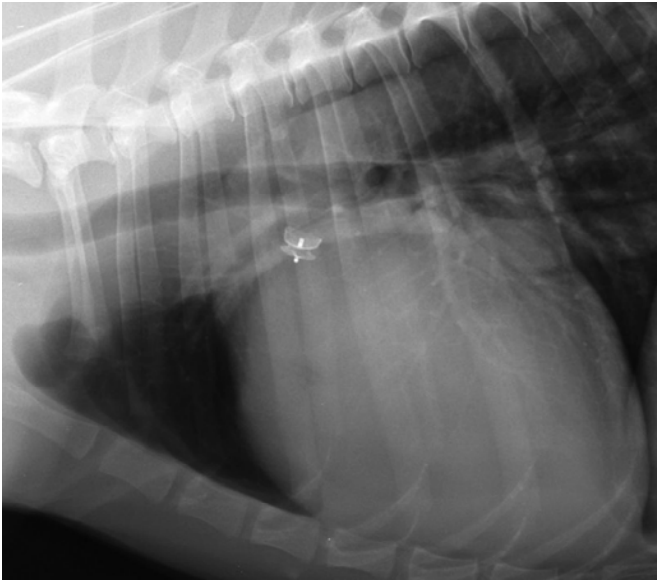

Figure 9. Lateral radiograph showing a correctly positioned and fully deployed device after removal of the delivery cable.
- 5.5. Do not release the Amplatz Canine Duct Occluder from the delivery cable if the device does not conform to its original configuration (Figure 9) or if the device position is unstable. Recapture the device and redeploy. If still unsatisfactory, recapture the device and replace with a new device or re-evaluate the anatomy of the ductus for proper sizing or candidacy for transcatheter closure.
shown in Figure 9. Proper positioning and stability of the device can then be tested with a gentle push-pull motions of the delivery cable followed by an injection of contrast through the delivery system with the delivery cable attached. A small amount of residual flow may be seen and is acceptable.